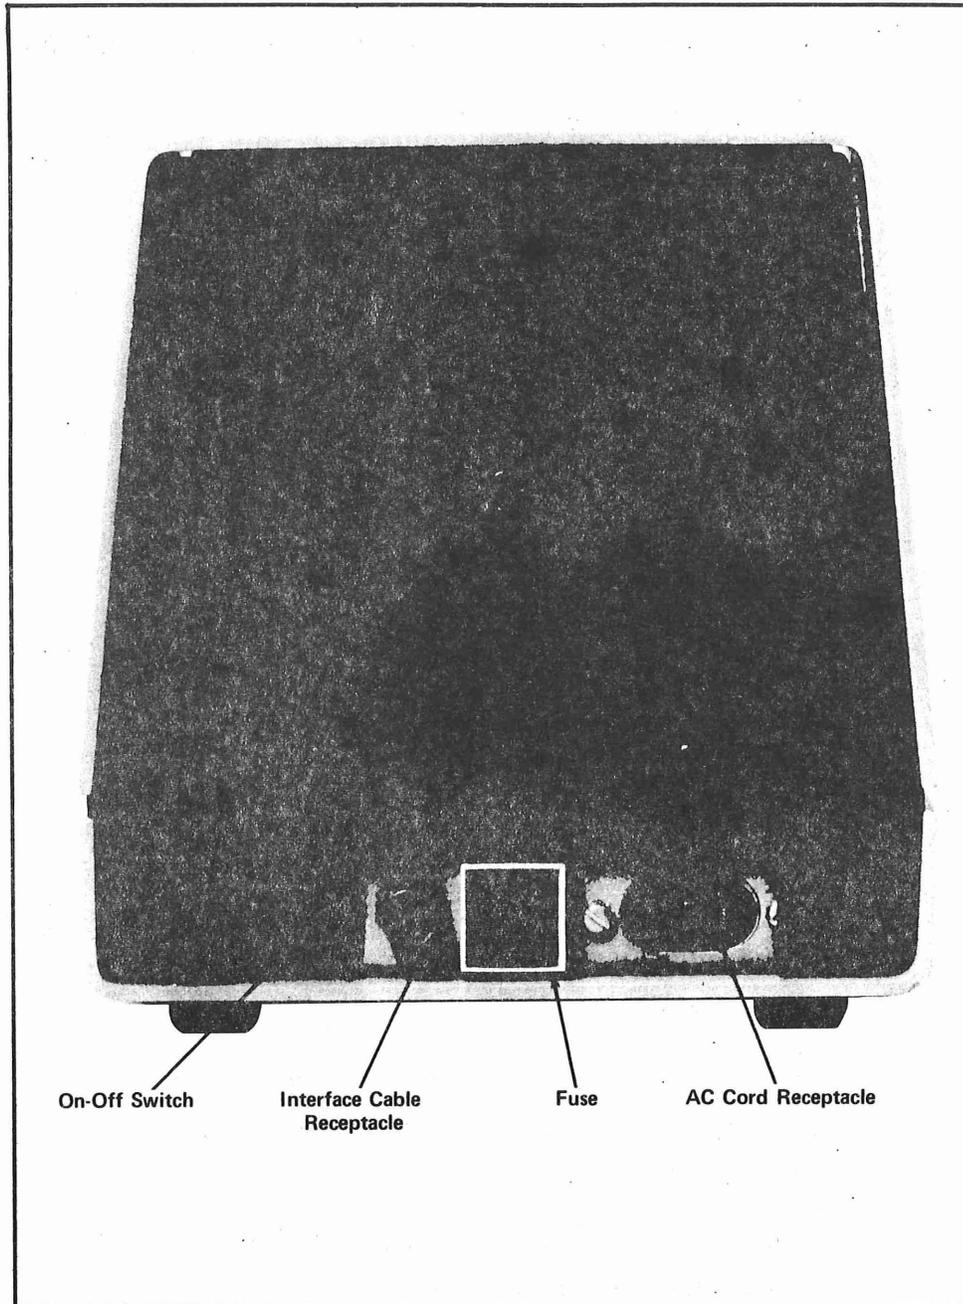

Figure 3-4. Connecting Interface Cable to DS150A Terminal
- (c) Connect interface cable to receptacle at rear of terminal, see figure 3-4.
- (d) Connect power supply cord to receptacle at rear of terminal, see figure 3-4.